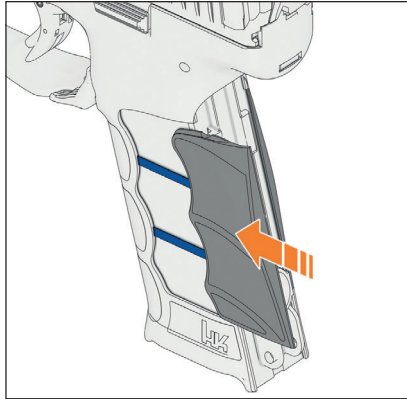

Figure 35 – Slide grip panels into guides
1. Slide grip panels into the plastic guides of the frame from rear to front (Fig. 35).